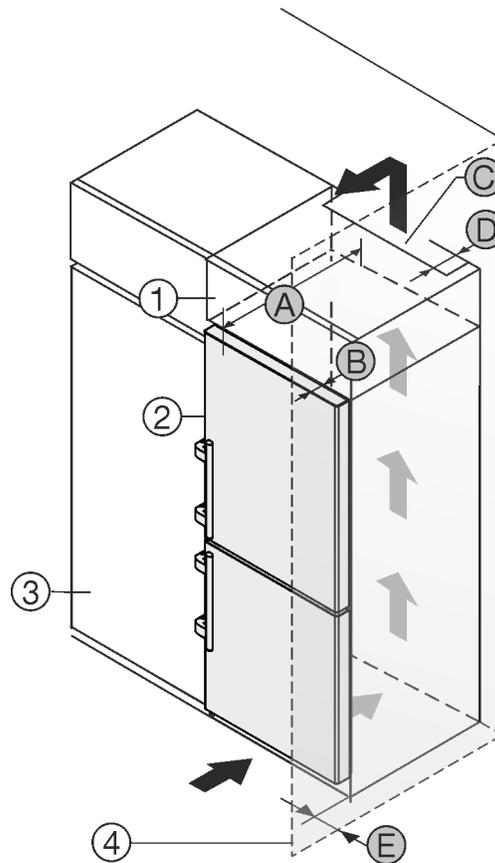

Fig. 2
- (1)** Top cabinet*
- (2)** Appliance*
- (3)** Kitchen cabinet*
- (4)** Wall*
- (A)** Appliance depth*
- (B)** Door depth*
- (C)** Ventilation cross-section*
- (D)** Distance to the rear of the appliance*
- (E)** Distance to the side of the appliance*
Set up the appliance directly next to the kitchen cabinet Fig. 2 (3).*
There must be a ventilation shaft at the depth Fig. 2 (D) of the back of the top cupboard over the entire width of the top cupboard.*
The cross section of the ventilation gap Fig. 2 (C) must be maintained below the ceiling.*
If the appliance is installed with the hinges next to a wall *Fig. 2 (4)*, the distance between the appliance and the wall must be at least 57 mm (2.24 in). This is how far the handle protrudes when the door is open.*
In order to be able to fully open the door, the appliance must protrude by the depth *Fig. 2 (B)* of the door from the front of the kitchen cabinet. Regardless of the depth of the kitchen cabinets *Fig. 2 (3)* and use of wall spaces, the appliance can protrude further.*